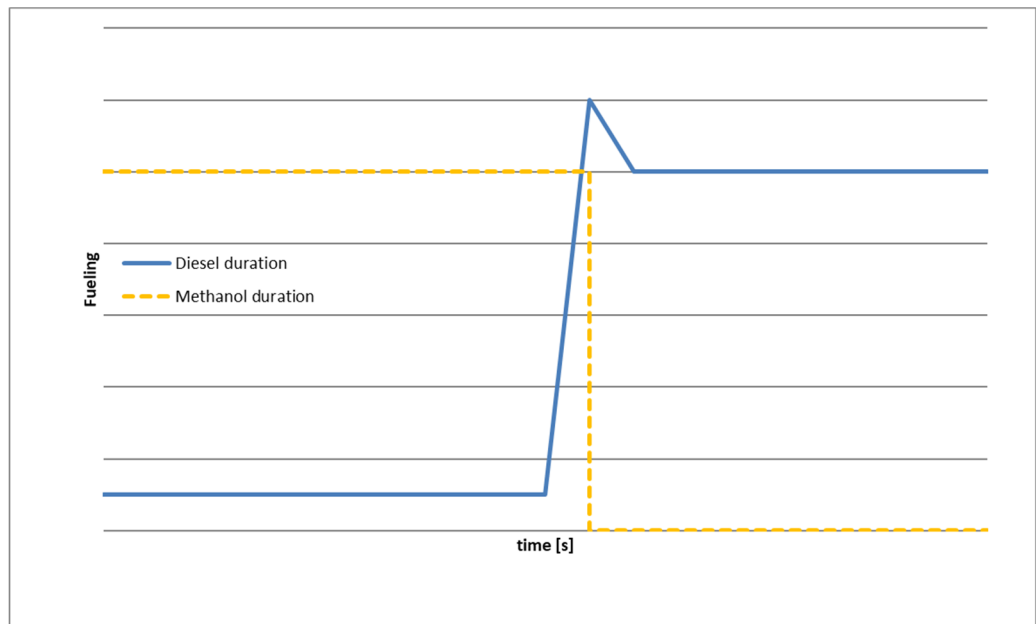

Figure 5.8 Fuel mode changeover from methanol to diesel
- ✓ Changeover takes only a second (Refer to Figure 5.8)